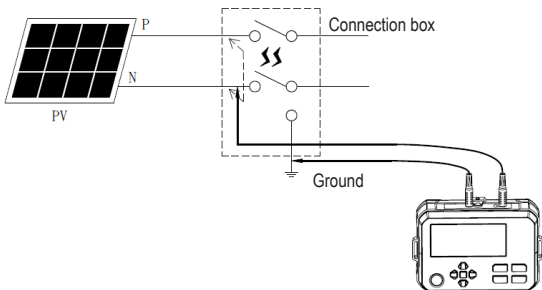

Figure 14.6 Measure between P and N in short-circuit state
2. Confirm that array voltage is ≈ 0 V before connecting test leads (Figure 14.6).